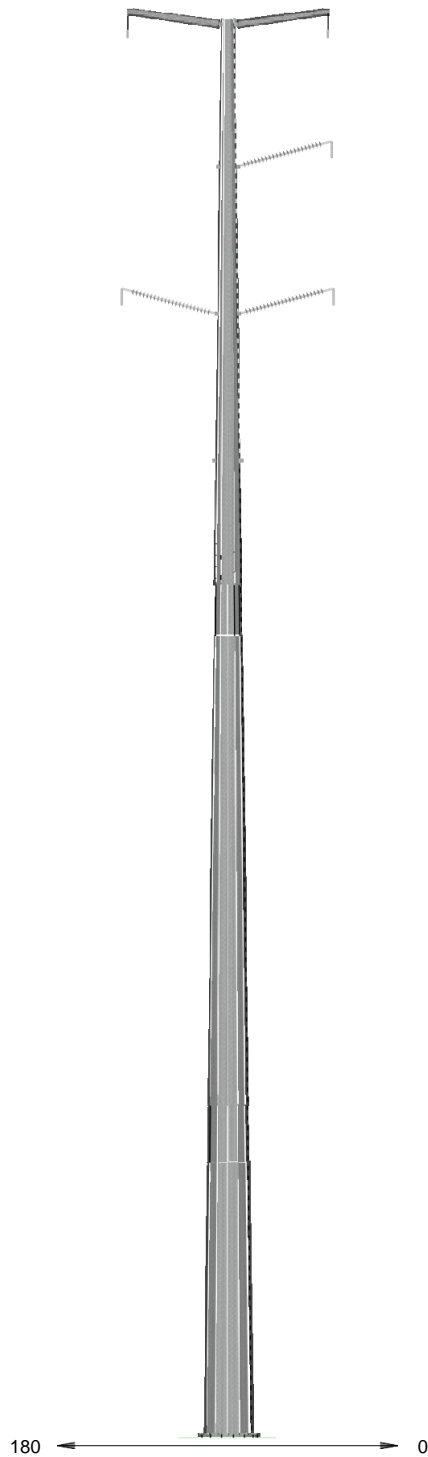

FIGURE G-7
- Figure G-7: Double-Circuit 230 kV Single-Pole, Tangent, Vertical Configuration on Davit Arms with Suspension Insulators